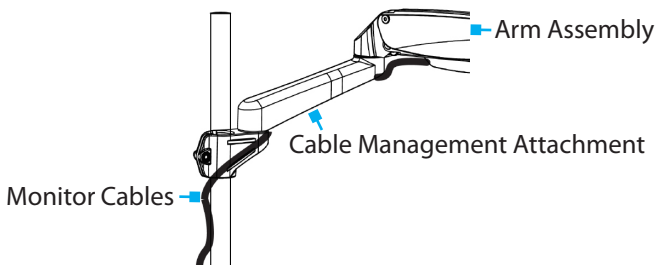

Figure 19
2. Route the **Monitor Cables** through the **Cable Management Attachment**, through the lower portion of the **Arm Assembly**, through the **Cable Management Clip**, and to the **Power/Video Sources**. (Figure 19)